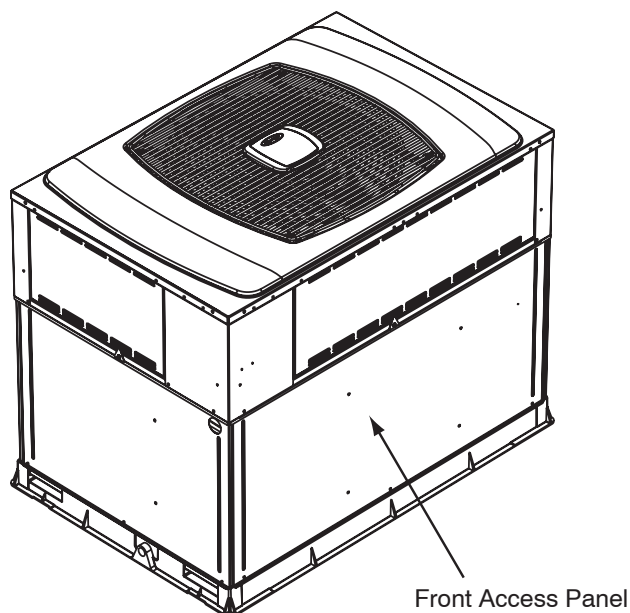

Fig. 1 - Unit Access Panel
4. Remove unit access panel to heater compartment (See Fig. 1).